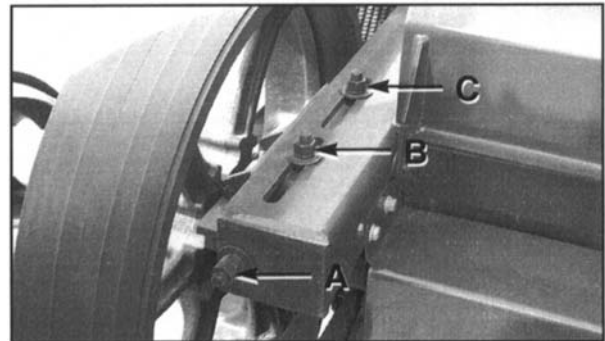
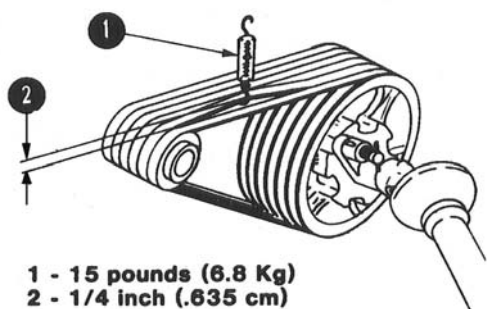

Figure 41 - Belt Tension Adjustment (Shields Removed For Clarity).
Figure 44 - Checking Belt Tension.
- Loosen bolts "B" and "C". (See Figure 41.)
- Adjust bolt "A" (Figure 41., Detail A) until 15 pounds of pull on the scale raises the top of one double V-belt approximately 1/4 inch above the top of the remaining belts. (See Figure 44.)